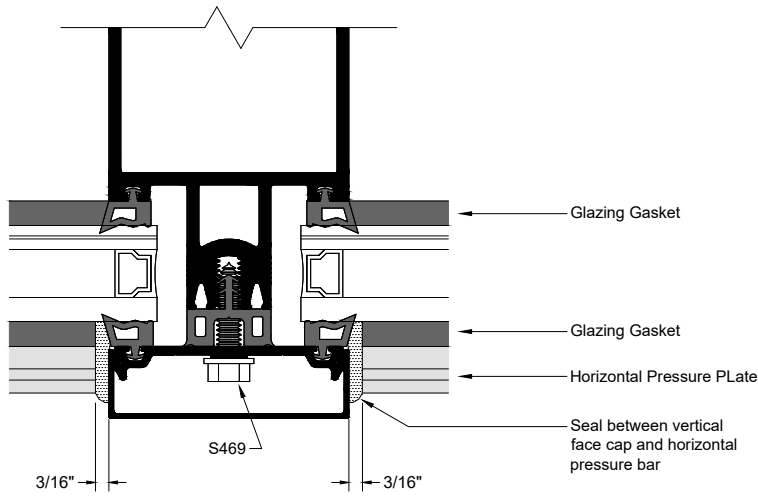

Fig.42.1
- H. Attach vertical pressure plate to back member with S469 screw see Fig.42.1